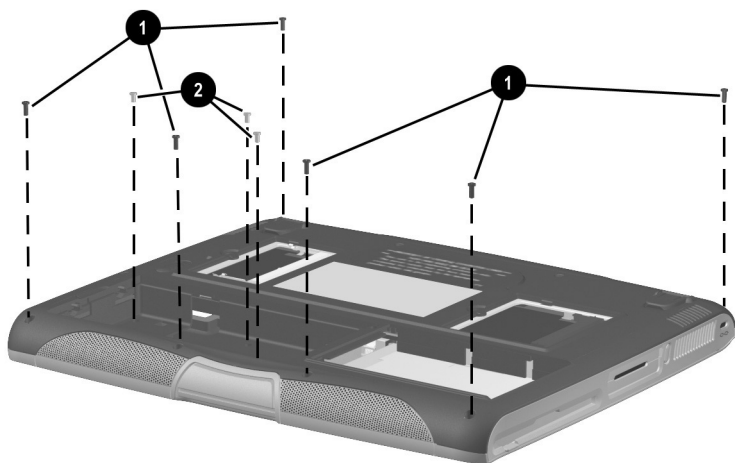

Figure 5-33. Removing the Top Cover Screws
3. Remove the six pewter TM2.0 × 7.5 screws ❶ that secure the top cover to the base enclosure (Figure 5-33).
4. Remove the three silver TM2.0 × 5.0 screws ❷ in the battery bay that secure the top cover to the base enclosure.